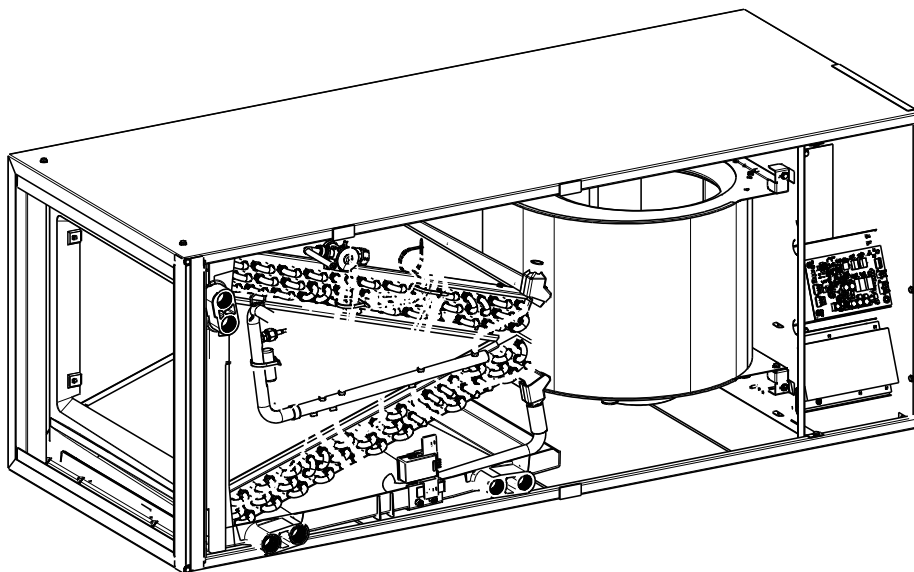

Fig. 7 – A-Coil in Horizontal-Right Application
1. Remove blower and coil access panels (Fig. 7).
- b. Remove air splitter (B) from coil seal assembly by removing 3 screws (Fig. 7 inset).
- c. Remove filler plate (A) and install air splitter (B) in place of filler plate.
- d. Install filler plate (A) as shown in horizontal right application.
- e. Remove condensate troughs (C) and install on opposite tube sheets.
12. Reconnect the sensor wire harness by following the routing shown in Fig. 7.
- b. If fan coil is against wall, secure fan coil to wall stud using 1/8-in. (3mm) thick right-angle brackets. Attach brackets to fan coil using No. 10 self tapping screws and to wall stud using 5/16-in. (8mm) diameter lag screws (see Fig. 7).